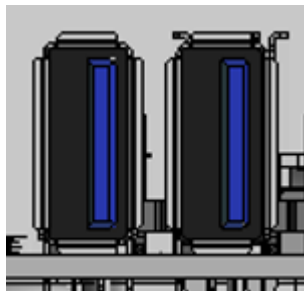

Figure 3-32: USB 3.2 Gen 1 Connectors (Type-A)
- CN Location:** See **Figure 3-32**